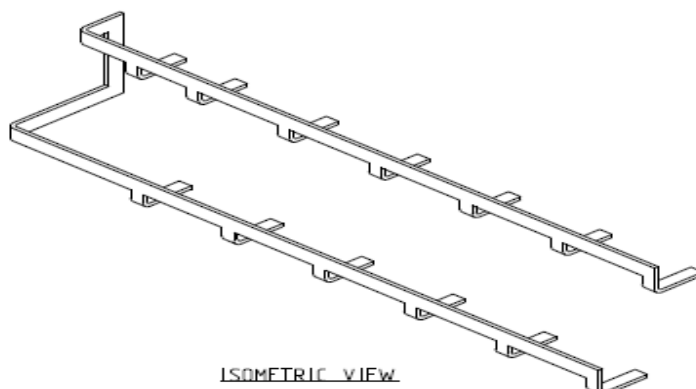

Figure 4-2. FTM106-1 and FTM106-2 Grounding Bars
- Refer to Figures 4-2, 4-3, and **Appendix A** for Speed Sensor wiring connections on the FTMs.